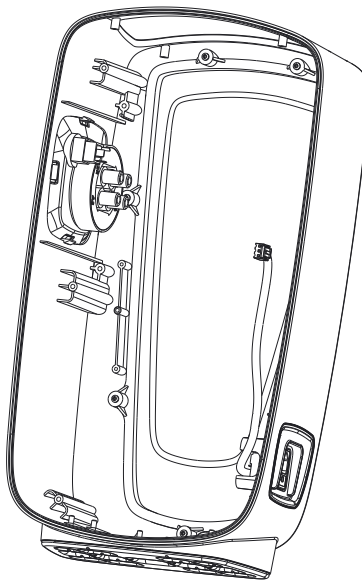

Figure 25 – Front pump housing
10. Remove and discard the front pump housing (Figure 25).